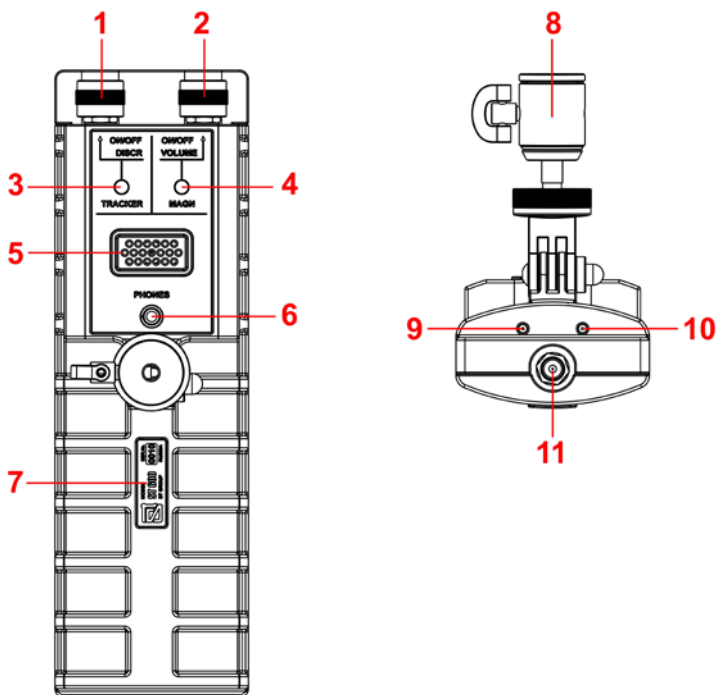

fig.2
The numbers in fig.2 denote:
An adjustable bracket is installed on the device body (fig.2, pos.8). The bracket allows you to fix the main unit on the telescopic handle (fig.1, pos.5) and fix it in the desired position relative to the examined surface.
Power supply of the main unit and the generator is carried out from built-in batteries. Fully charged batteries ensure continuous operation of the main unit and the generator for 7 hours. The power control of the main unit is carried out using two LEDs (Fig. 2, p.9 and p.10). With a fully charged battery in operating mode, both LEDs do not glow. When the battery is discharged, a red LED lights up (Fig. 2, p.9). The battery of the main unit is charged in the off state using the charger (Fig. 1, p.4) while the green LED is lit (Fig. 2, p.10), which goes out when charging is complete. Full charging time of the main unit is not more than 2 hours.
1. Turn on the main unit by switch (fig.2, pos.2). The device automatically switches to the “DETECTOR” mode. The “MAGN” indicator will light (fig.2, pos.4).
2. Connect headphones to the main unit (fig.2, pos.6).
4. Adjust the headphone volume by switch (fig.2, pos.2).